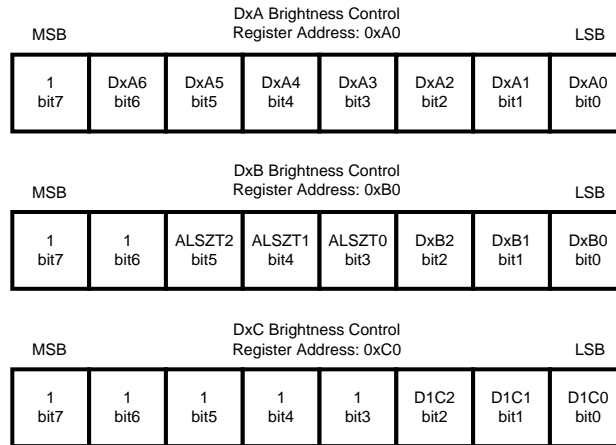

Figure 23. Brightness Control Register Description
- B7-B0: Sets the ALS Zone Brightness Code. B7 always = 1 (unused). Use the formula found in the BankA Brightness Register Description (Figure 23) to set the desired target brightness. Default values can be overwritten
- Zone0 Brightness Address = 0x70. Default = 0x99 (25) or 0.084 mA
- Zone1 Brightness Address = 0x71. Default = 0xB6 (54) or 0.164 mA
- Zone2 Brightness Address = 0x72. Default = 0xCC (76) or 1.45 mA
- Zone3 Brightness Address = 0x73. Default = 0xE6 (102) or 6.17 mA
- Zone4 Brightness Address = 0x74. Default = 0xFF (127) or 25 mA